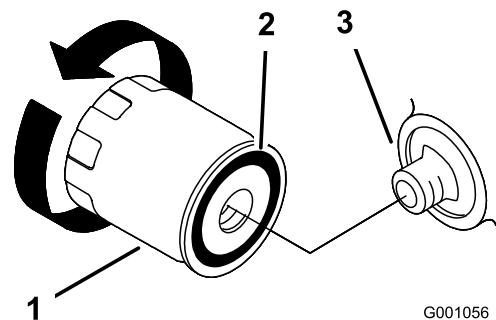

Figure 25
2. Remove the old filter and wipe the filler adapter gasket surface (Figure 25).
3. Apply a thin coat of new oil to the rubber gasket on the replacement filter (Figure 25).
4. Install the replacement oil filter to the filter adapter, turn the oil filter clockwise until the rubber gasket contacts the filter adapter, then tighten the filter an additional 2/3 to 1 turn (Figure 25).